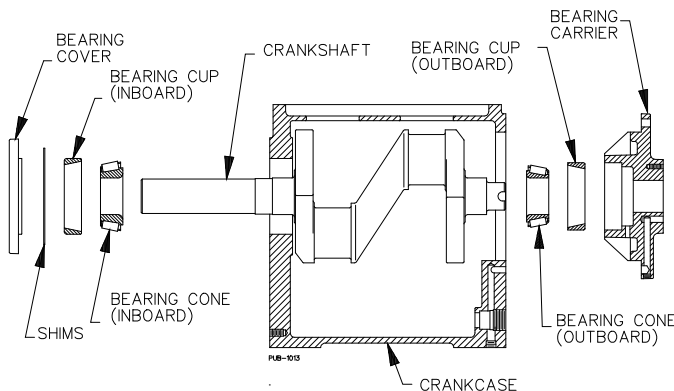

Figure 17 - Bearing Locations
- b. Referring to Figure 17 for the proper orientation, carefully press the inboard bearing cup into the crankcase until it is flush with the outer surface of the crankcase.